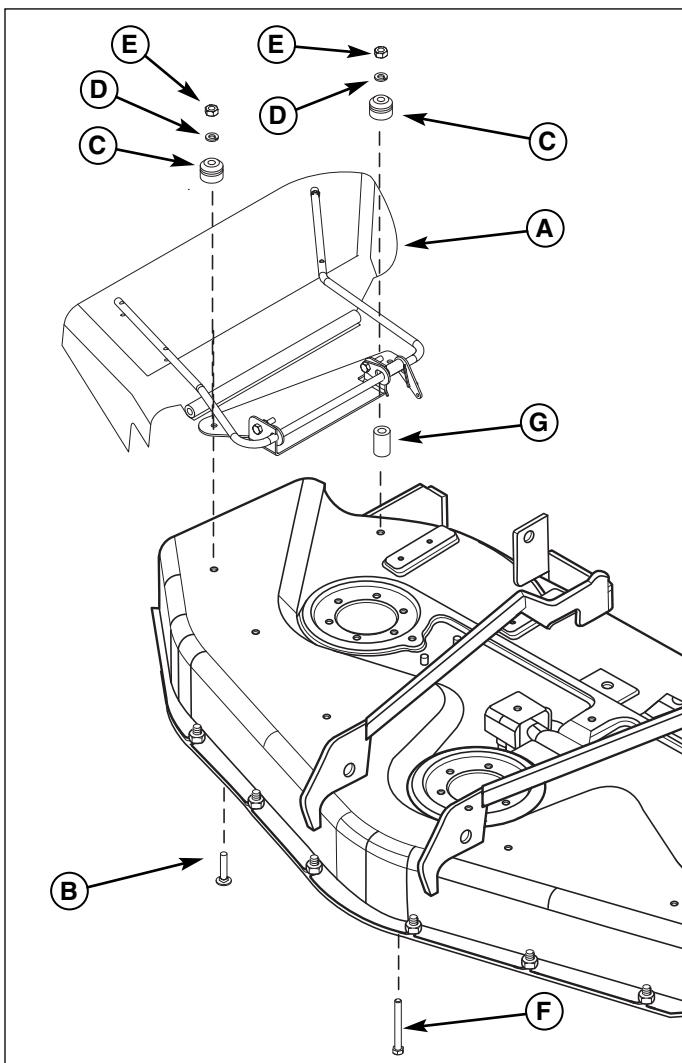

Figure 3. Install Deflector and Hinge
1. Install the new deflector and hinge assembly (A, Figure 3) onto 54-inch mower deck.
2. Secure front of hinge bracket using a new carriage bolt (B), cylinder spacer (C), lockwasher (D), and nut (E).
3. Secure back of hinge bracket using carriage bolt (F), tapered spacer (G), cylinder spacer (C), lockwasher (D), and nut (E).